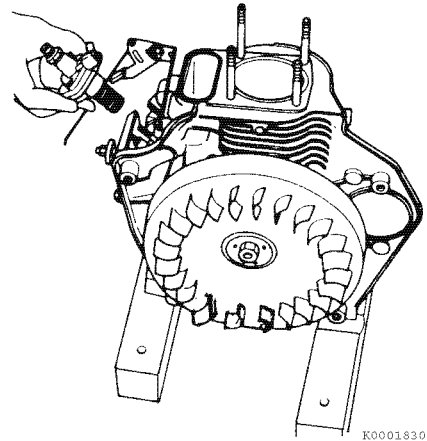

Figure 6-40
18. Remove the fuel injection pump (**Figure 6-40**).